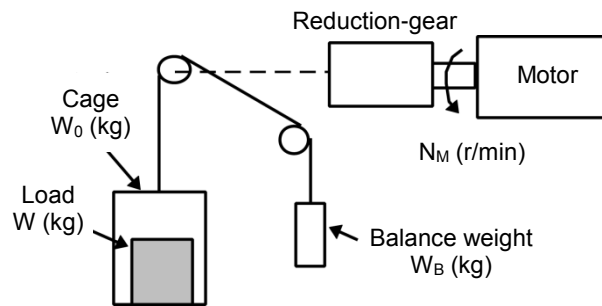
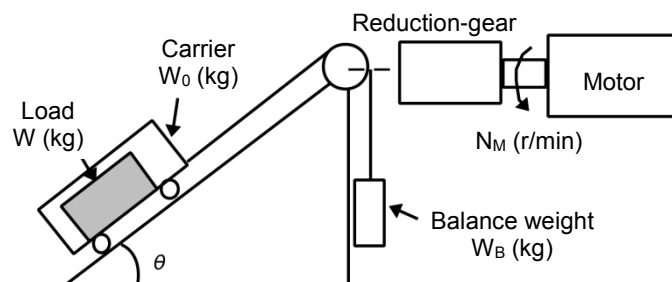

Figure 10.3-2 Vertical Lift Load
Figure 10.3-3 Inclined Lift Load
A simplified mechanical configuration is assumed as shown in Figure 10.3-2. If the mass of the cage is  $W_0$  (kg), the load is  $W$  (kg), and the balance weight is  $W_B$  (kg), then the forces  $F$  (N) required for lifting the load up and down are expressed as follows:
If the incline angle is  $\theta$ , and the friction coefficient is  $\mu$ , as shown in Figure 10.3-2, the driving force  $F$  (N) is expressed as follows:
The moment of inertia  $J$  ( $\text{kg} \cdot \text{m}^2$ ) of the loads connected with a rope as shown in Figure 10.3-2 and Figure 10.3-3 is calculated with the following equation using the mass of all moving objects, although the motion directions of those loads are different.